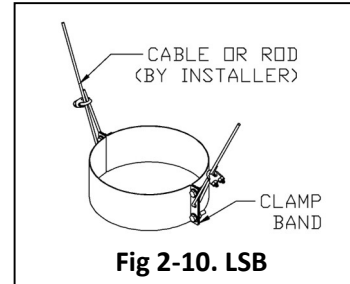

Fig 2-10. LSB
The band firmly clamps around the pipe outer jacket and includes four (4) 1/4" x 20 stainless steel nuts and bolts. Remaining hole in the middle where wires or threaded rods (by the installing contractor) are used for support or guiding back to the building structure. See Fig 2-10.